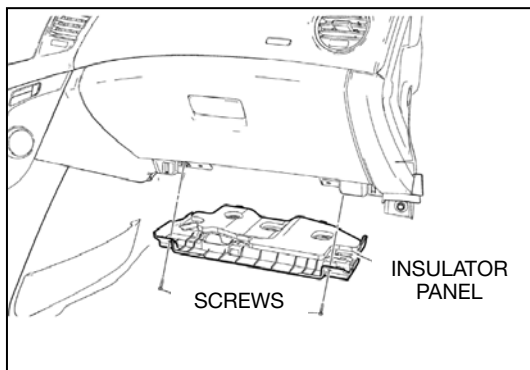

Fig. 7
1. Remove instrument panel passenger side insulator panel attaching screws and panel (see Fig. 7).